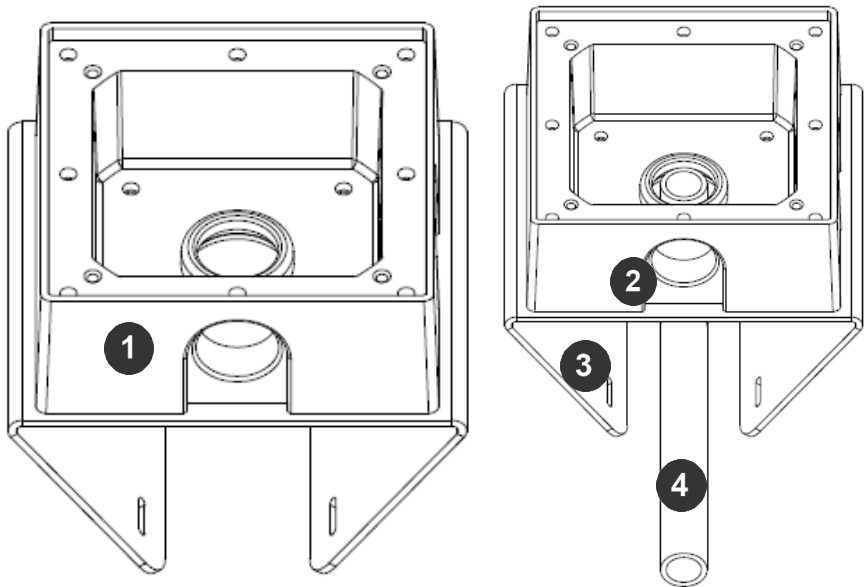

Figure 15: Attach conduit to the junction box adapter on the AV-SWMJB wall mount
- 3. Attach the AV-SWMJB Wall Mount to the Pole Mount Adapter (AV-PMA, Figure 15).
- 4. Remove the conduit plug on the junction box adapter and connect 3/4" NPT conduit to the junction box adapter (Figure 15).
- 6. Attach the Wall Mount Adapter (AV-SWMJB) to the Pole Mount Adapter (AV-PMA) as shown in Figure 15.